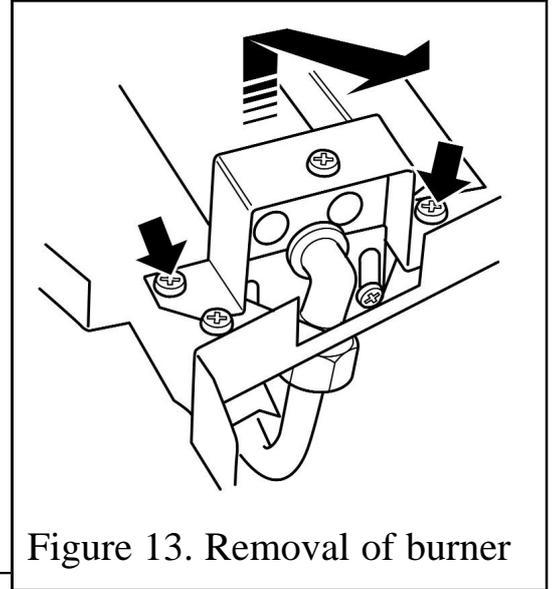

Figure 13. Removal of burner
(See figure 13).
3. Remove the two screws from the burner clamping plate (See figure 13)